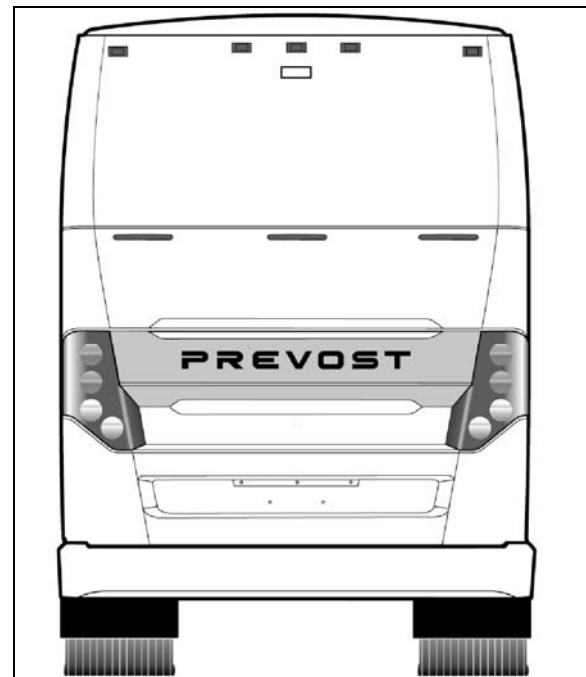

FIGURE 60: ENGINE COMPARTMENT DOOR 18497
5. When the door is straight, remove the 2x4's and check door operation and fit. A difference of $\frac{3}{32}$ " (2mm) between both sides is accepted (Fig. 60).